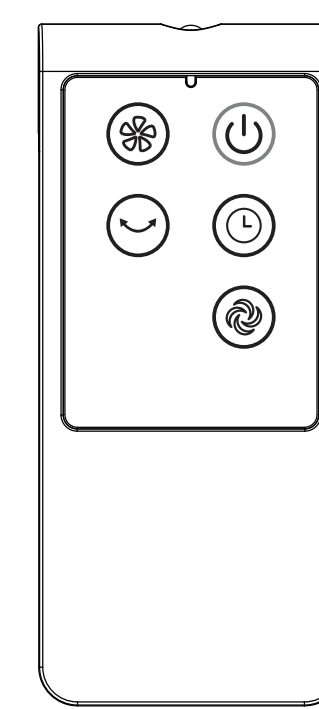

Fig.4
4. Pass the power cord through the flute, then insert the fan body into the base. (See Fig. 4)
### I. Remote Controller (Fig.4)